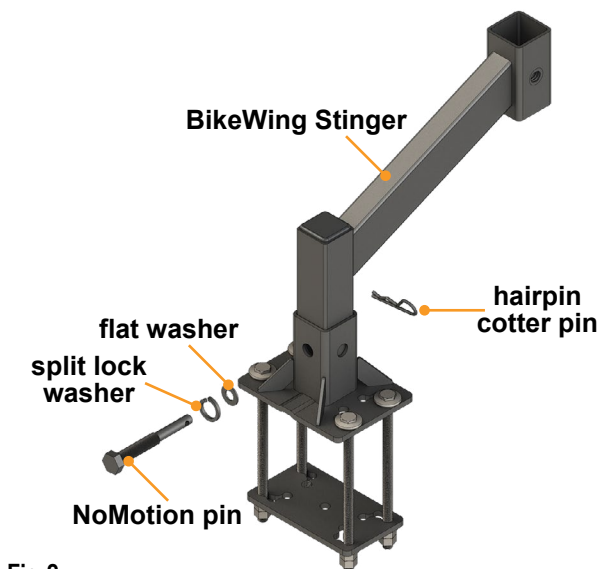
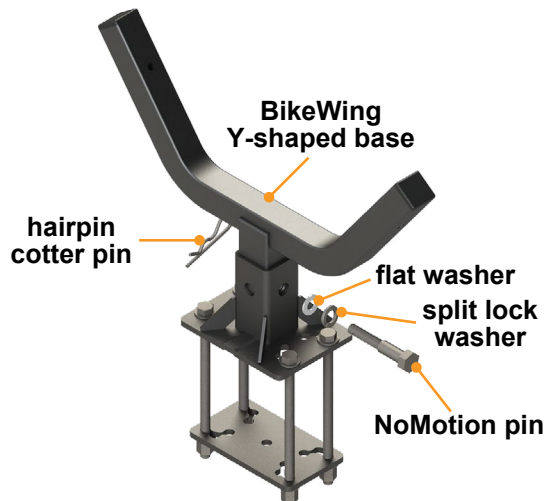

Fig.2
Fig.3
NOTE: NoMotion pins, flat and split washers and cotter pins, shown in Figures 2 and 3, are parts of the Jack-IT bicycle rack product and are NOT included in the BikeBase kit.
2. Attach the BikeWing Stinger (**Fig.2**) or the BikeWing Y-shaped base (**Fig.3**) to the receiver tube of the BikeBase with the NoMotion hitch pin and washers. Install the split lock washer first and then the flat washer onto the hitch pin.